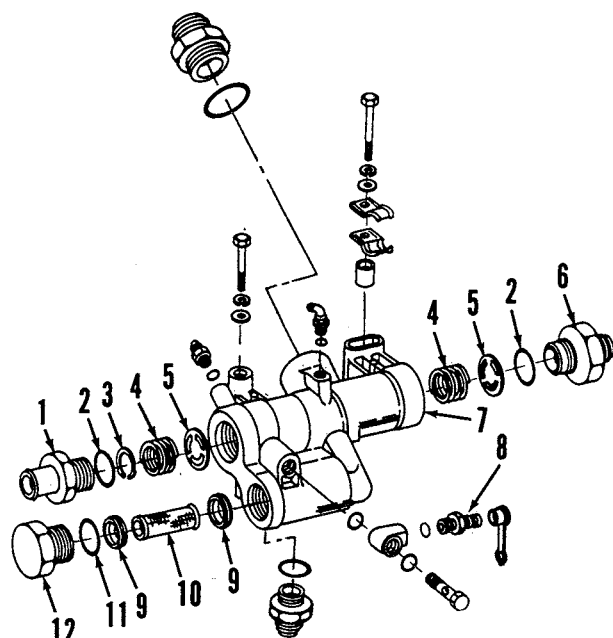

Fig. 235—Exploded view of return oil manifold showing component parts.
Refer to Fig. 235 and disassemble manifold components as necessary. Inspect filter element (10) for